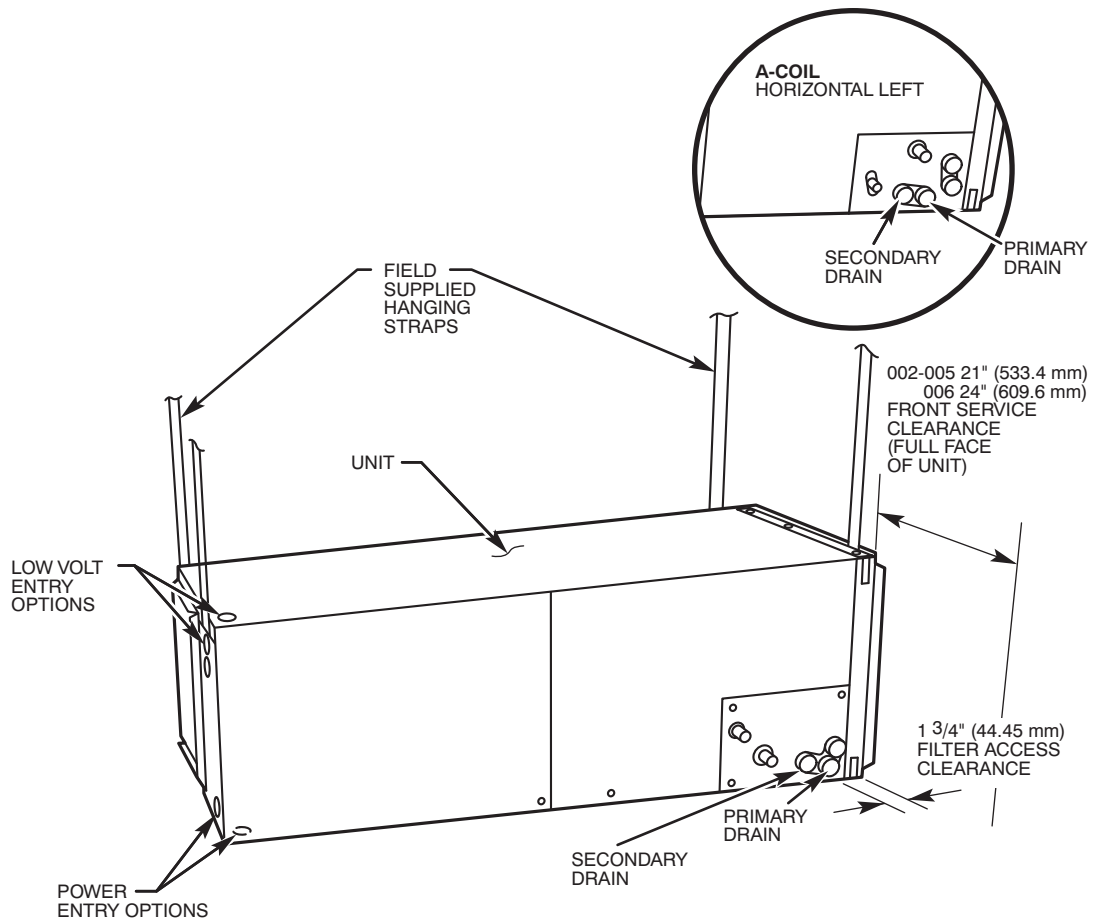

Fig. 2 - Slope Coil in Horizontal-Left Application (Factory Ready FE4A only)
2. When suspending unit from ceiling dimples in casing indicate proper location of screws for mounting metal support straps. (See Fig. 2.)